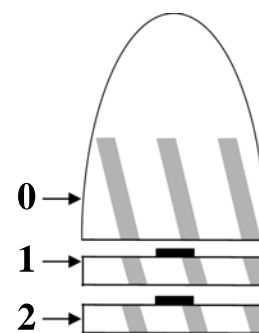

Figure 3
- Pick up the Bullet model marked “0” (Figure 3).